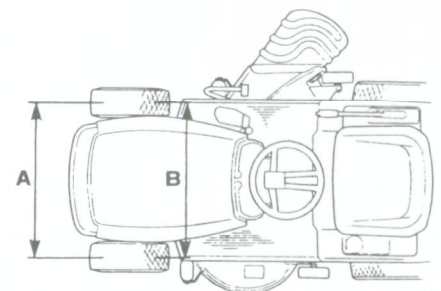

Fig. K2—Front wheel toe-in should be 0-5 mm (0-3/16 in.). Refer to text for adjustment procedure.
To check front wheel toe-in, turn front wheels straight ahead and measure distance (A—Fig. K2) between front of tires and distance (B) between rear of tires. Distance (A) should be 0-5 mm (0-3/16 in.) less than distance (B). To ad-